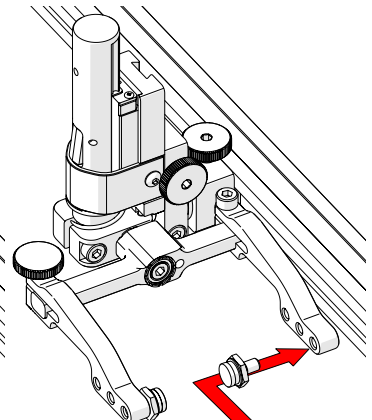

Fig. 102 - Place buttons
3. Position the pivot buttons where necessary (Fig. 102). When a narrow scanning footprint is required, use the pivot button holes closest to the yoke.